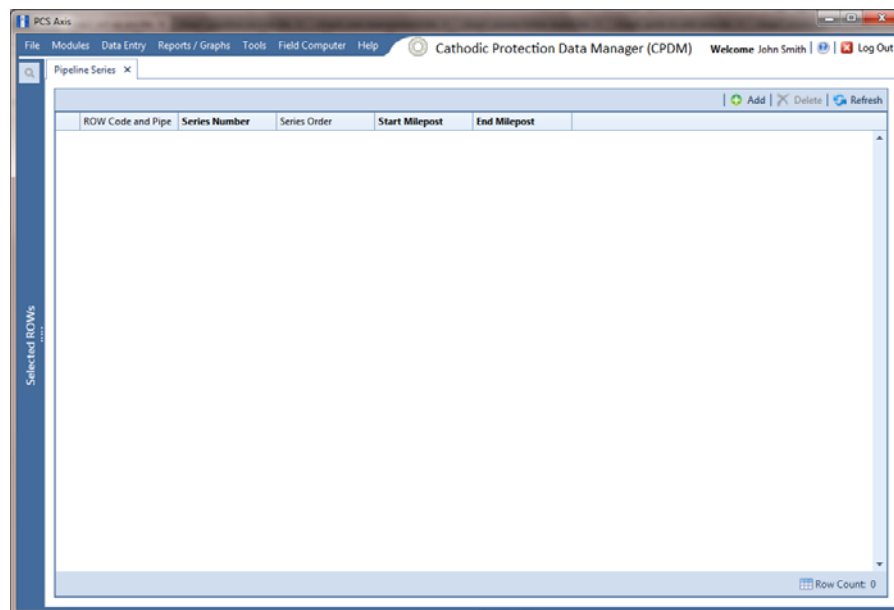

Figure 2-39. Pipeline Series
- 3 Click **Data Entry > Pipeline Series** to open the *Pipeline Series* window (Figure 2-39).